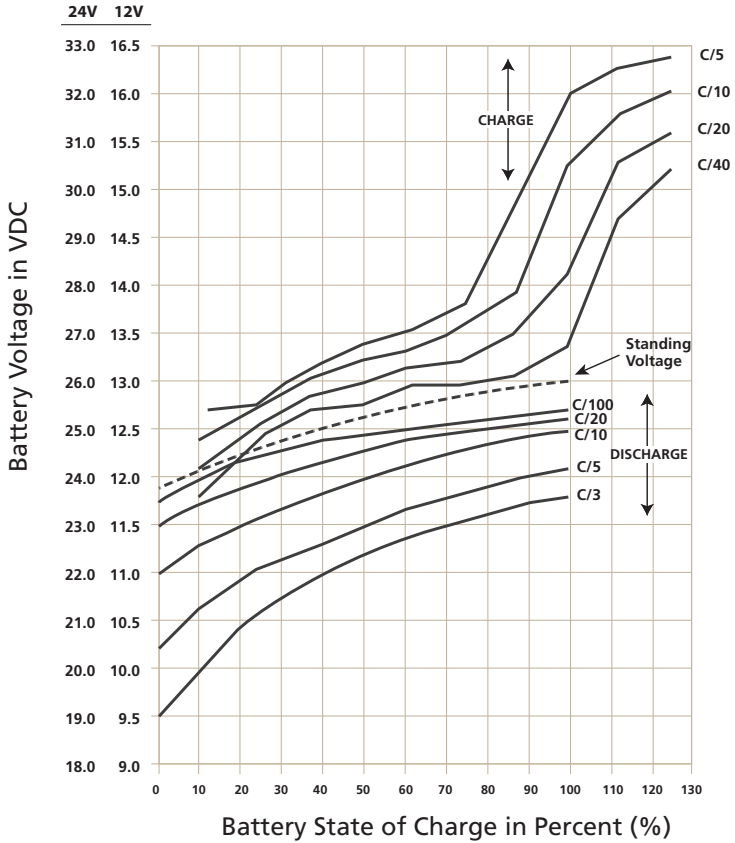
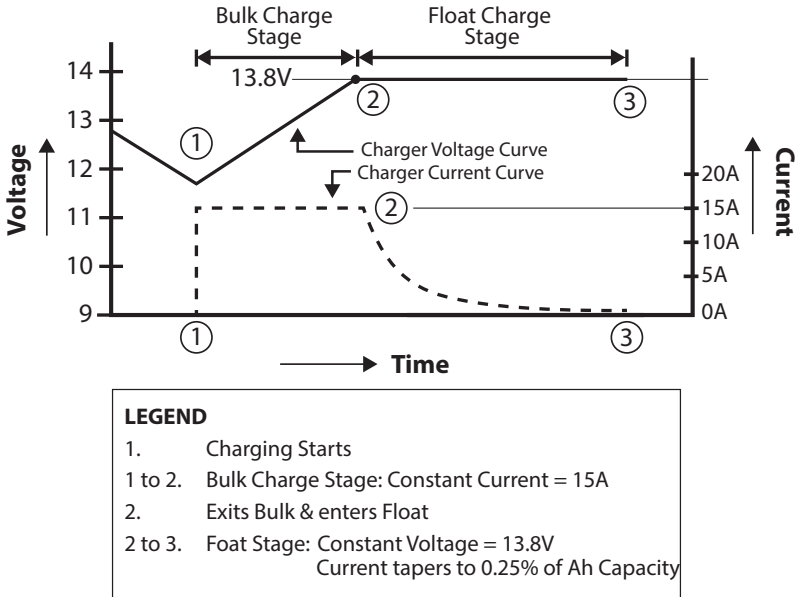

Fig 2.2 Charging / Discharging Curves for Typical Flooded Lead Acid Battery
Fig. 2.3 Battery Charger Stages and Voltage/Current Curves
Fig. 2.2 shows the charging and discharging characteristics of a typical 12V / 24V Flooded Lead Acid battery at electrolyte temperature of 80°F / 26.7°C. The curves show the % State of Charge (X-axis) versus terminal voltage (Y-axis) during charging and discharging at different "C-Rates". **Please note that X-axis shows % State of Charge. State of Discharge will be = 100% - % State of Charge.** The value of charging / discharging current is expressed as "C-Rate" which is a ratio as defined below:
Working of a 2 Stage Charger is explained below. Please refer to Fig 2.3.
- iii. The “Standing Voltage” of a battery is the terminal voltage of the battery after it has “rested” for at least 4 hours (no charging or discharging during resting period of 4 hours). The Standing Voltages of 12V Lead Acid battery are as follows (See Fig 2.2):
- iv. Before the charger is switched ON (before Point 1 in Fig 2.3), the battery is almost completely discharged to “Standing Voltage” of around 11.8V (Fig 2.2) and its internal resistance is, say 16 milli Ohm. Assuming 4 milli Ohm of battery wire resistance, a resistance of 20 milli Ohm will be seen by the charger when it is initially switched ON. When the charger is switched ON (Point 1 in Fig 2.3), 13.8 V from the charger is fed to the battery. Voltage difference of 2.0V (13.8V-11.8V) will initially TRY to drive very large charging current of around 100A into the battery ($2.0V \div 20 \text{ milli Ohm} = 100A$). However, the charger will limit the current to 15A will enter Current Limit Condition as explained at paragraph (i) above and its voltage will be clamped to the actual battery voltage i.e. 11.8V. This is the start of the “Bulk Charge Stage”
- v. Continuous 15A constant current charging in the “Bulk Charge Stage” (Points 1 to 2 of Fig 2.3) will slowly raise the battery voltage. As the battery voltage rises, the voltage difference between the charger’s Float Stage Voltage setting of 13.8V and the battery’s actual voltage reduces. The internal resistance of the battery also reduces. When the battery voltage rises to around 13.6V, the charging current will reduce below 15A and the charger will exit Current Limit Condition - its voltage will rise to constant, regulated Float Voltage of 13.8V (Point 2 in Fig 2.3). At this point, the charger will exit the constant current “Bulk Charge Stage” and enter the constant voltage “Float Charge Stage”.
- vi. During the “Float Charge Stage” (Points 2 to 3 in Fig 2.3), the battery is charged at constant voltage of 13.8V. The charging current tapers from 15A to low steady state Float Charge Current of around 0.25% of the Ampere Hour (Ah) capacity of the battery (Point 3 in Fig 2.3). At 13.8V, the battery is charged to around 80% of its rated capacity at C/10 Charge Rate (Fig 2.2).